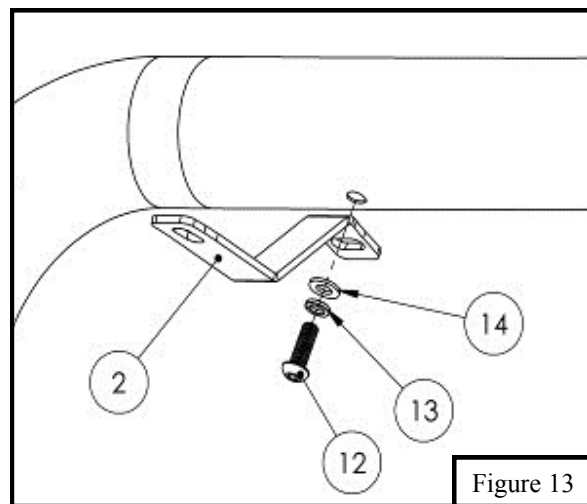

Figure 13
12. Loosely attach the upper support straps to the bull bar using the supplied M10 hardware (12-14) according to **Figure 13**.